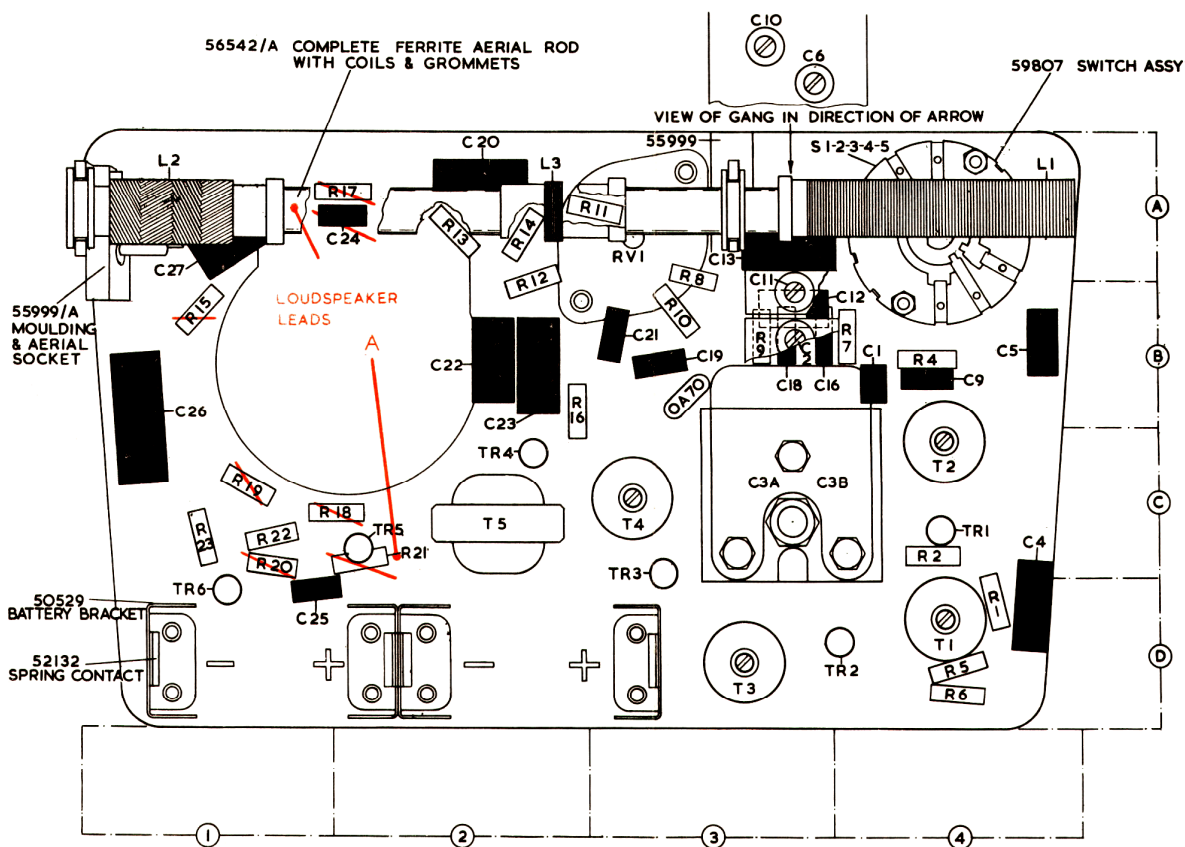

Fig. 2
9. Solder loudspeaker lead to earth connection - (A., Fig. 2.)
10. Solder second loudspeaker lead, suitably shortened to junction of 680 ohm and 100mfd. (R17 and C27), situated under ferrite rod. (B., Fig. 2).